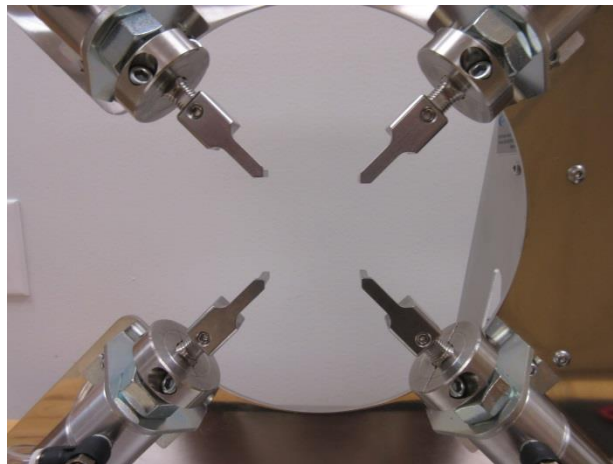

Figure 6
- Activate the expander by pressing on the foot pedal and keep it depressed while performing the jaw removal and installation. When changing jaws, keep hands clear of the expansion center to avoid injury if the foot pedal is accidentally released. (**Figure 6**)